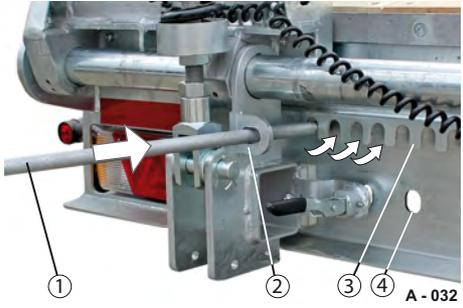

Fig. 84 Setting track width
- ▶ Insert the operating pole (Fig. 84/1) through the eye (Fig. 84/2).
- ▶ Using the operating pole, grip one notch (Fig. 84/3) after another and slide the ramp to the required position. Make sure that the spring lever can be secured in one of the next retaining holes (Fig. 84/4).
The spring lever engages in the retaining hole (Fig. 84/4).